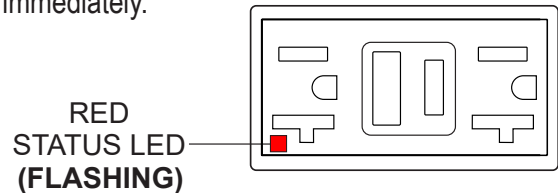

Figure 82. GFCI Receptacle (RED Flashing LED)
6. If the status LED (Figure 82) is **flashing (RED)**, **DO NOT** use the GFCI receptacle and replace it immediately.